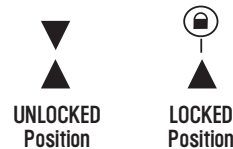
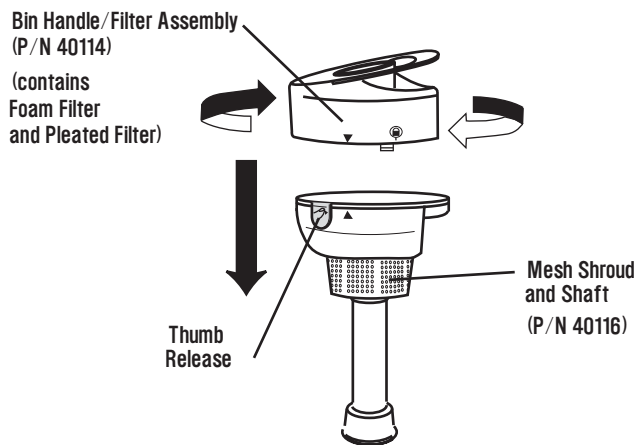

Figure 12c
Figure 13a
2. The Bin Handle/Filter Assembly and the Mesh Shroud and Shaft join together to form the Collection Bin Cover/Handle. See Figure 13a. Grasping the Bin Handle/Filter Assembly in your right hand, and the Mesh Shroud and Shaft firmly in the other, press the Thumb Release with your left thumb. Turn the Bin Handle/Filter Assembly counter-clockwise to the UNLOCKED position; until the 2 arrows line up. (See Figure 12c.) Pull the Shaft away from the Bin Handle/Filter Assembly.